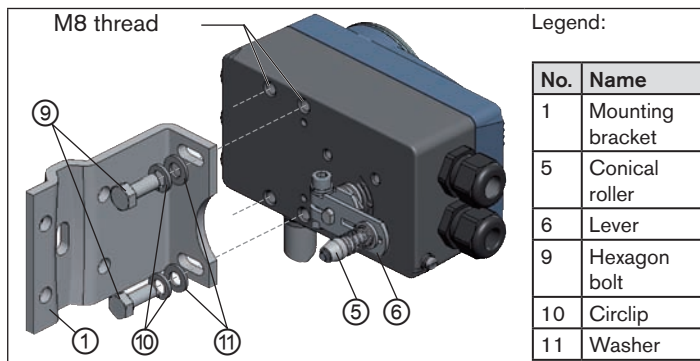

Fig. 9: Attaching mounting bracket
→ Attach mounting bracket ① to the back of the Type 8792/8793 with hexagon bolts ⑨, circlip ⑩ and washers ⑪ (see „Fig. 9“).
The conical roller ⑤ on the lever ⑥ of the position sensor must be able to move freely in the hoop (refer „Fig. 9“) along the entire stroke range of the actuator.